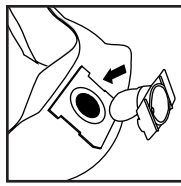

FIGURE 29
41. With the opening of the inlet deflector facing the left or right side of the filter bag, slide filter bag collar over deflector matching notches of bag collar to tabs on inlet deflector. Bag will only fit properly one way. **FIGURE 29.**